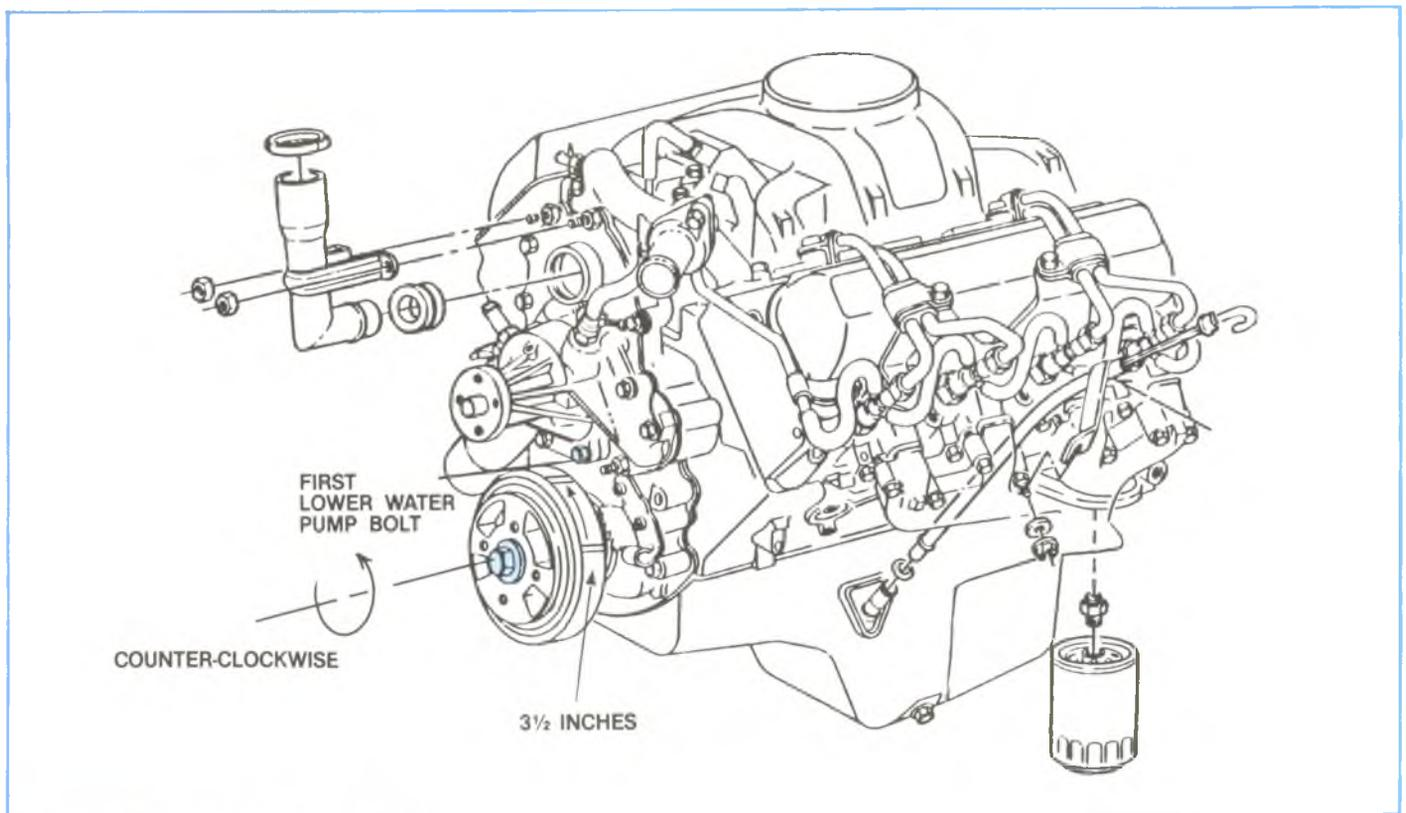

Figure 2-9, Balancer Position.
2. Rotate engine  $3\frac{1}{2}$ " counter clockwise (measured on balancer) or to first lower water pump bolt (See Figure 2-9). This procedure will position the engine so that no valves are close to a piston head. This is  $30^\circ$  BTDC.